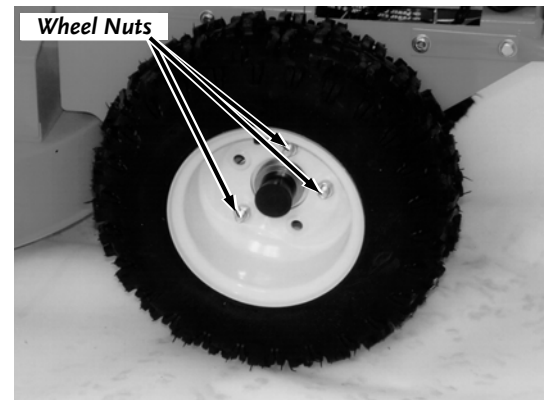

Figure 27
6. Remove the three (3) Nuts and slide the Wheel off (**Figure 27**).